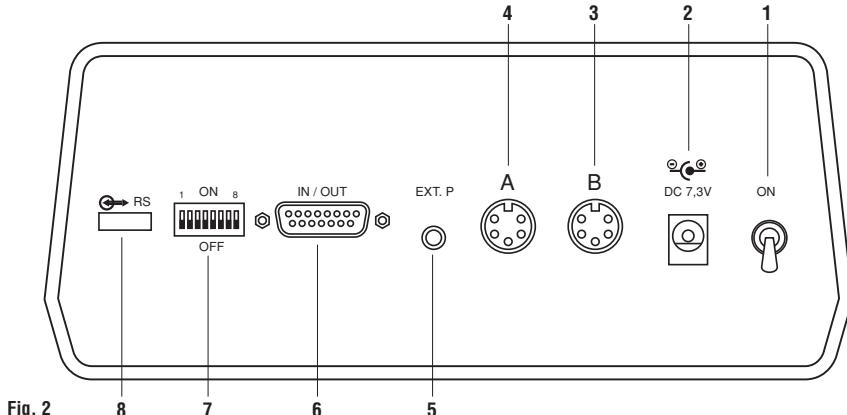

Fig. 2
- Connect the charger appropriately (2, Fig. 2), and then plug it to the mains (230 V or 115 V for US).
- Connect each probe (3 and 4, Fig. 2).
- Turn the instrument ON using the power switch (1, Fig. 2).